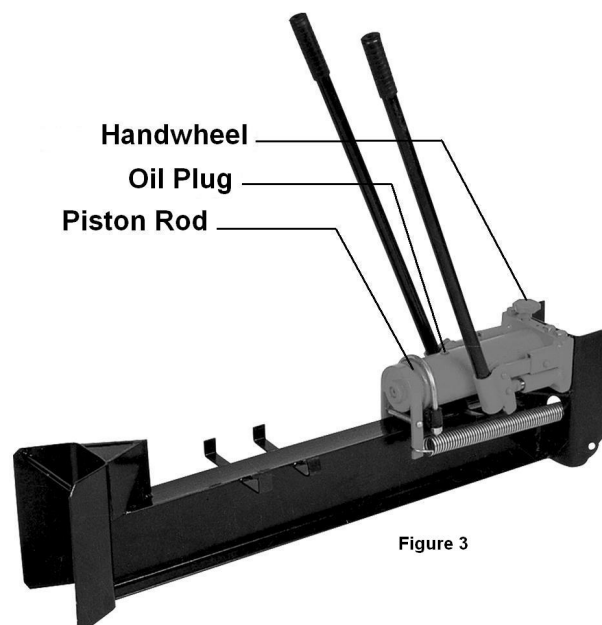

Figure 3
2. Remove the oil Plug and top off the oil (see Figure 3).